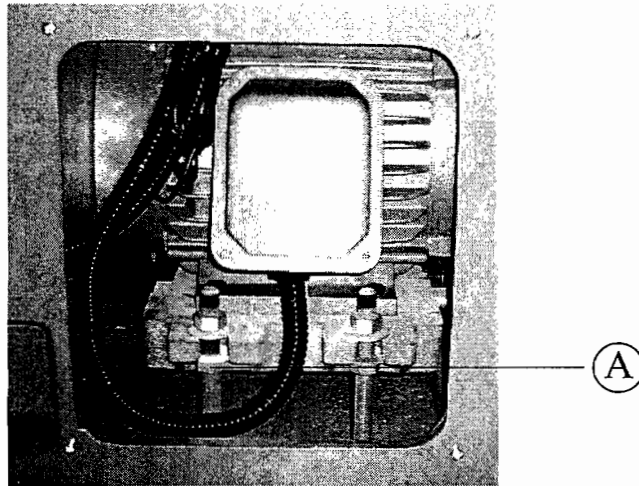

Fig 7-5
2. Loosen adjusting lock-nuts \textcircled{A} Fig. 7-5 and adjust the belts to proper tension.